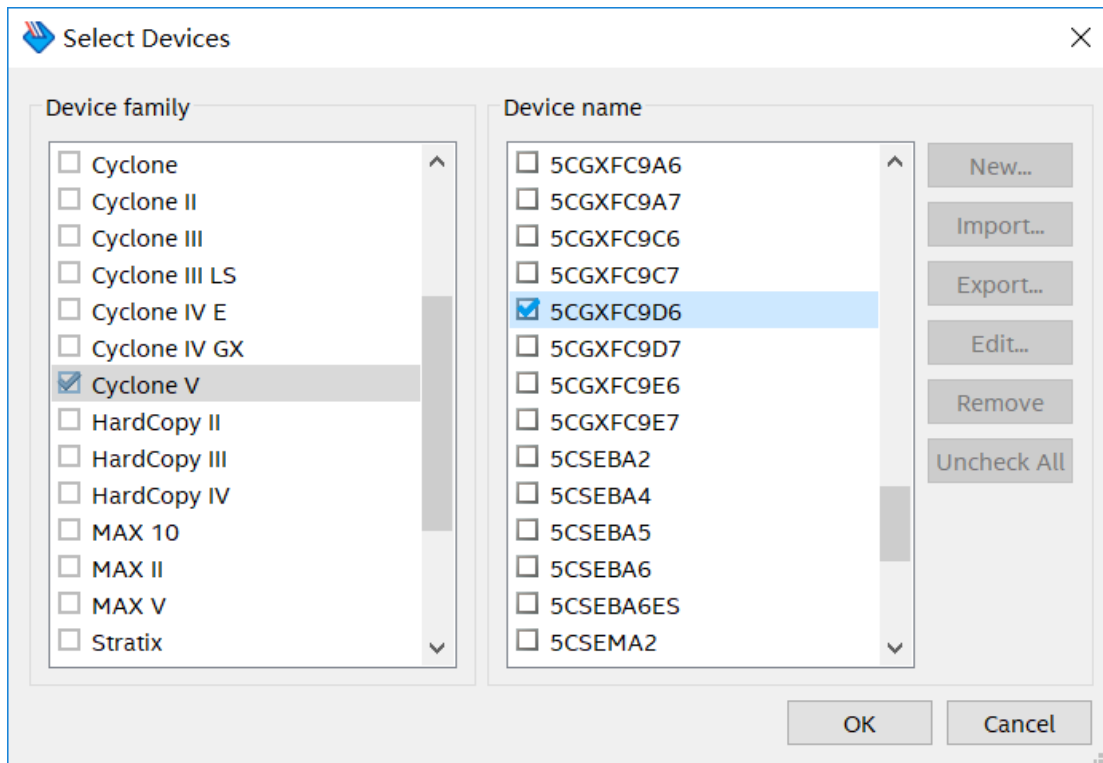

Figure 6-4 Select Devices Page
12. As shown in **Figure 6-4**, choose the same FPGA device to with the SOF Data.